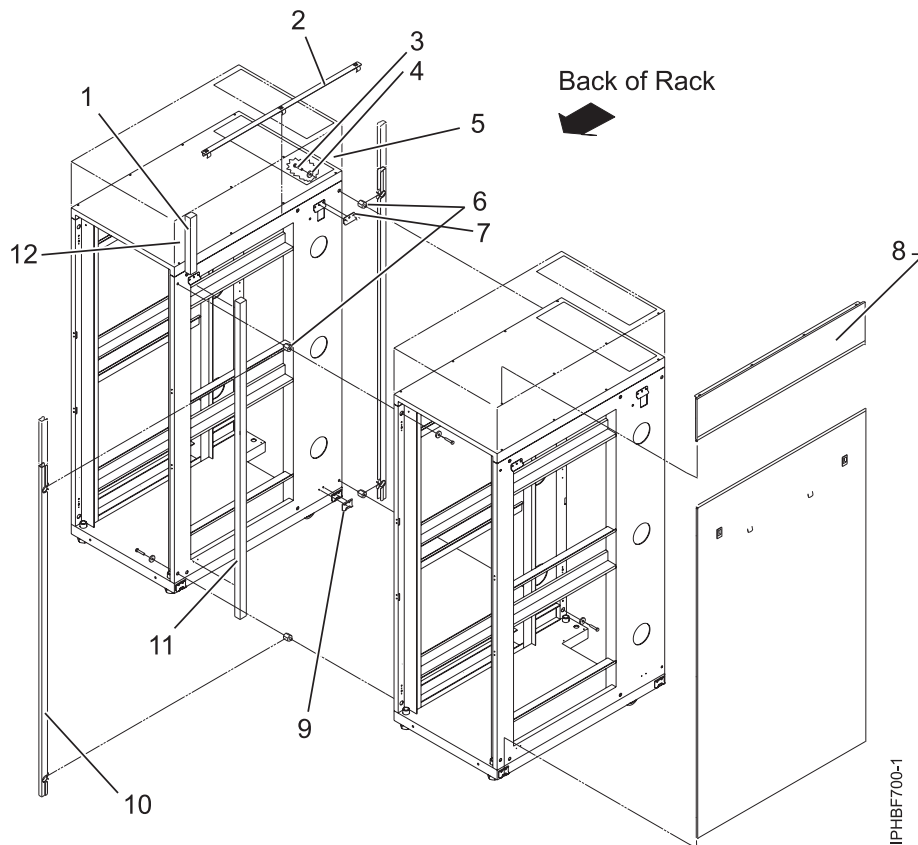

Figure 117. Removing the side panels, Z and J brackets, and installing standoffs and long foam to connect multiple racks
4. Install the first two standoffs in the upper-left and lower-right corners of the first rack as shown in Figure 117 on page 118.
5. Install the second two standoffs in the upper-left and lower-right corners of the second rack as shown in Figure 117 on page 118.
6. Attach the long foam as shown in Figure 117 on page 118. For a model T42 rack, join the short foam to the end of the long foam, and adhere it to the frame length of the rack.